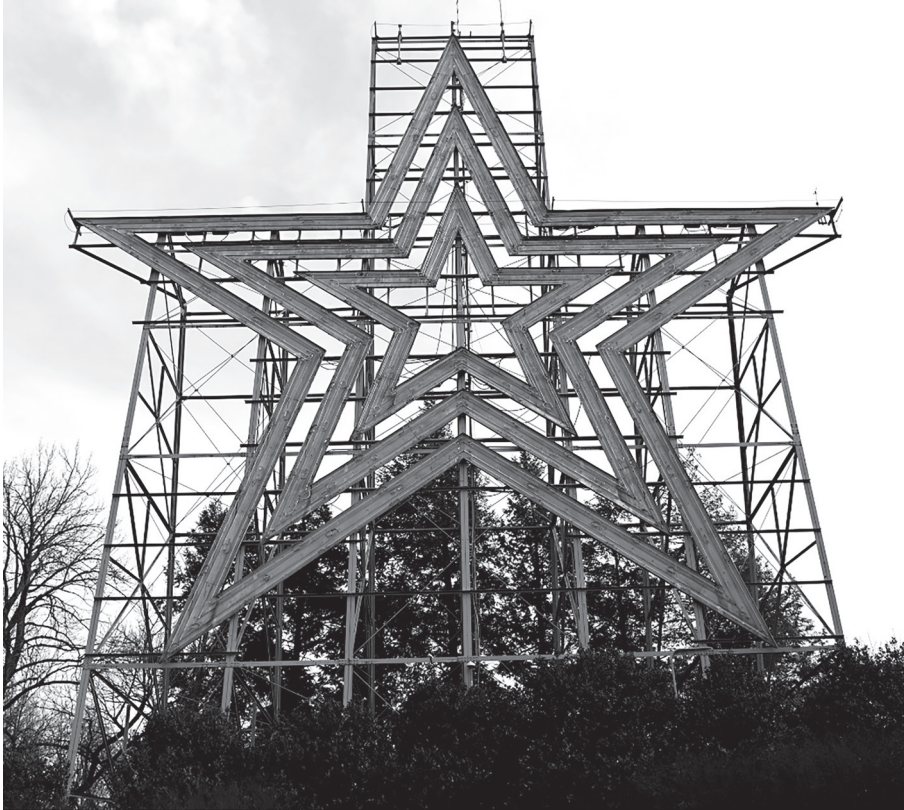

Fig. 10.1
- 10 (a) Fig. 10.1 shows a 27 m high structure used to support an illuminated star.